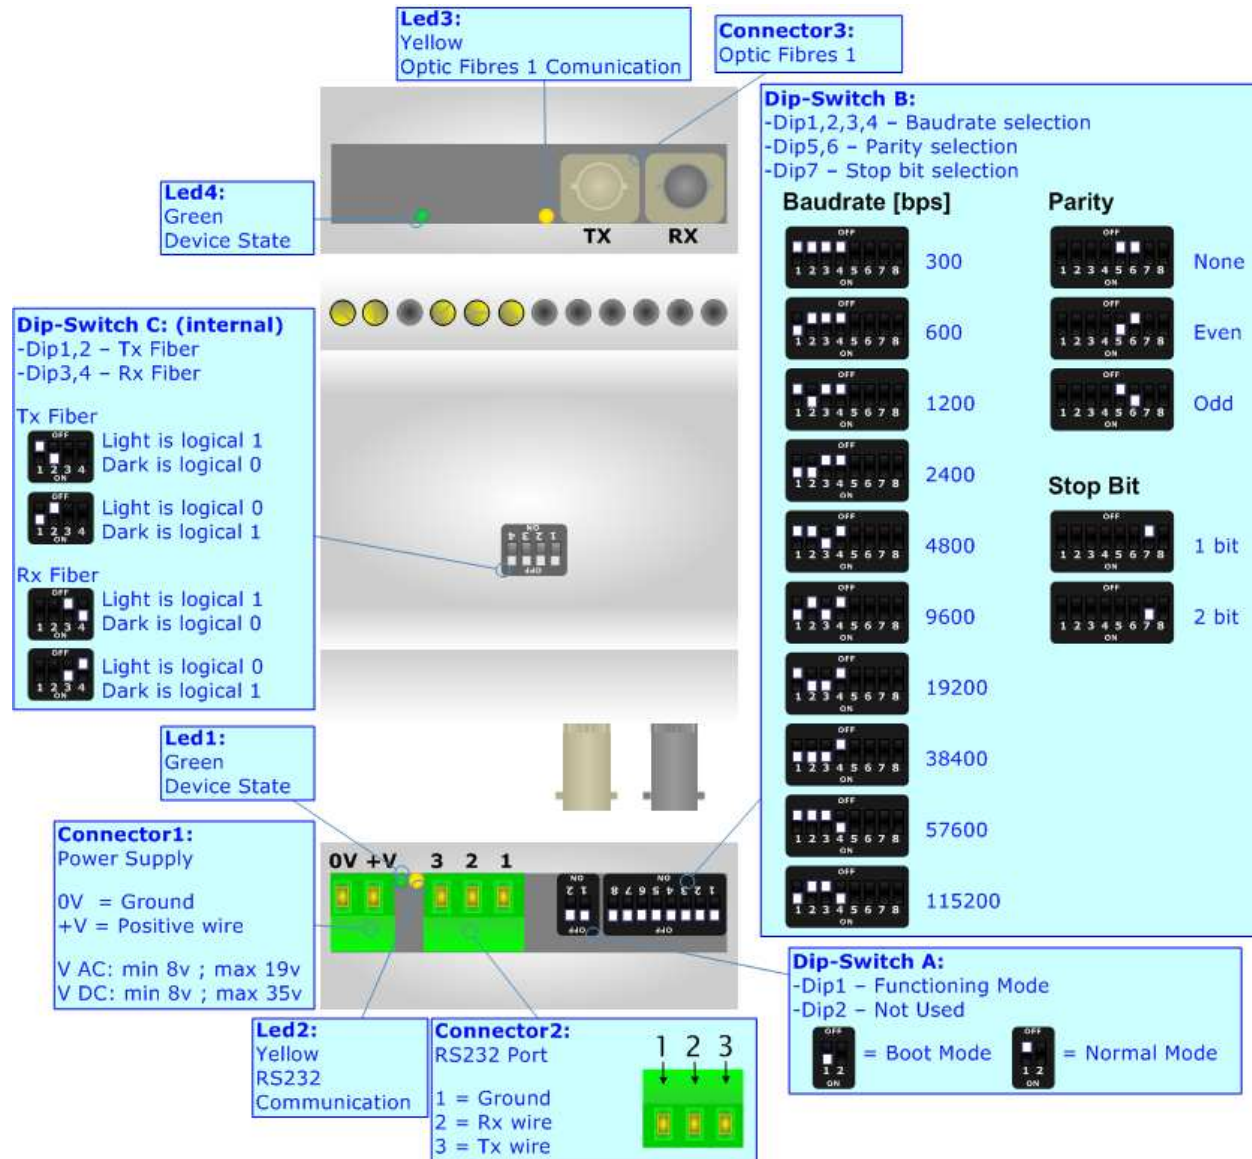

Figure 1: Connection scheme for HD67072-B2
- Put the Dip1 of Dip-Switch A at ON position (For more info see Figs. 1,2,3);
- Check the Leds. All must blink quickly (For more info see Figs. 1,2,3);